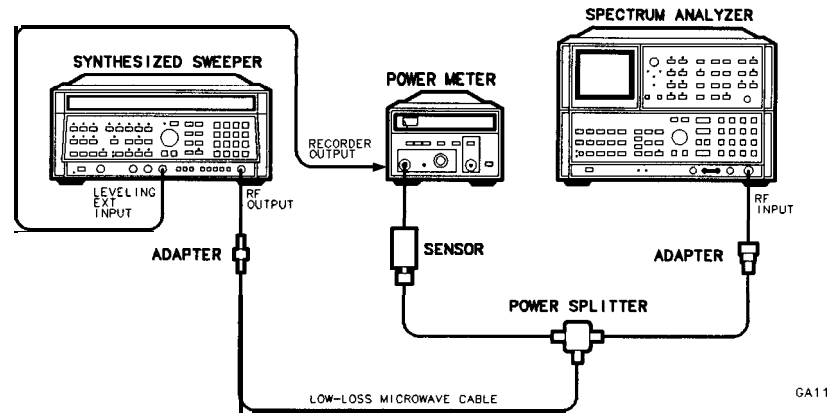

Figure 2-19.
36. Connect equipment as shown in Figure 2-19, with one resistive output of the power splitter connected to the power meter/power sensor, and the second resistive output connected to the spectrum analyzer RF INPUT using an APC 3.5 (m) to Type N (m) adapter. Connect the power meter rear panel RECORDER OUTPUT to the synthesized sweeper front panel LEVELING EXT INPUT.